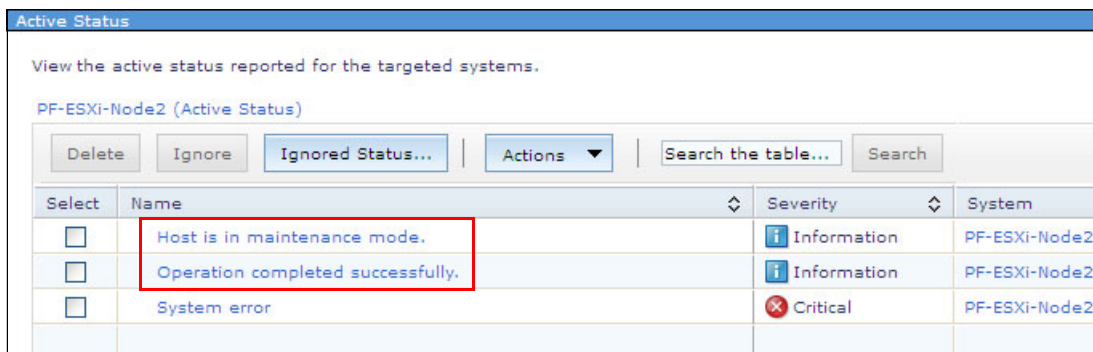

Figure 11-82 Active Status window for selected node
15. Observe the Information events that describe the actions that were performed by the event automation plan configured earlier. See Figure 11-82. PF-ESXi-Node2 is now in maintenance mode.